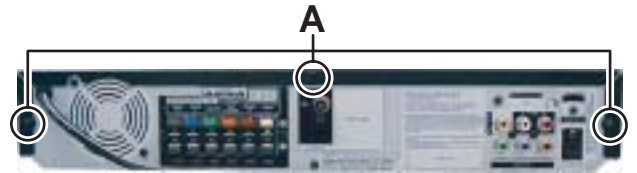

Fig.1
3.1.1 Removing the Metal cover (See Fig. 1, 2)
- (1) Remove the three screws **A** attaching the Metal cover. (See Fig.1)
3.2.1 Main base (See Fig.1)
- (1) Place the disc clamp assembly as Fig.1.
- (2) Lift up the disc clamp assembly in direction of the arrow (A).
- (3) Separate the disc clamp assembly from the Clamp holder.
- (4) Turn the Clamper plate to counterclockwise direction and then lift up the clamper plate.